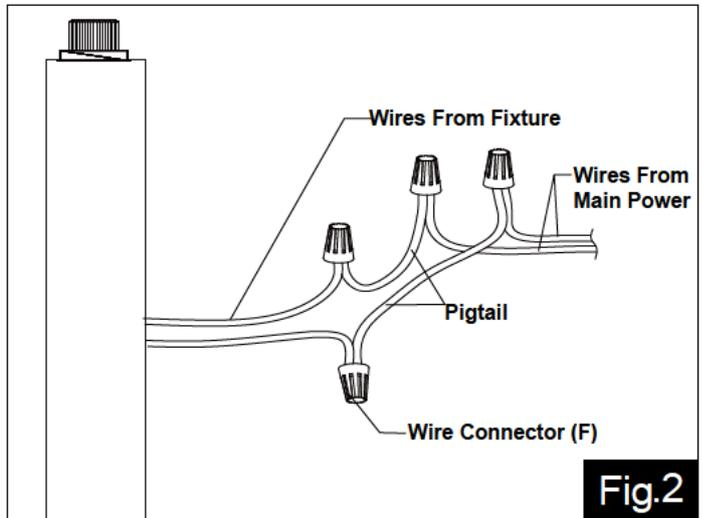

Fig.2
3. Take a white pigtail and black pigtail and make wire connections using wire connectors (F): (See Fig.2)